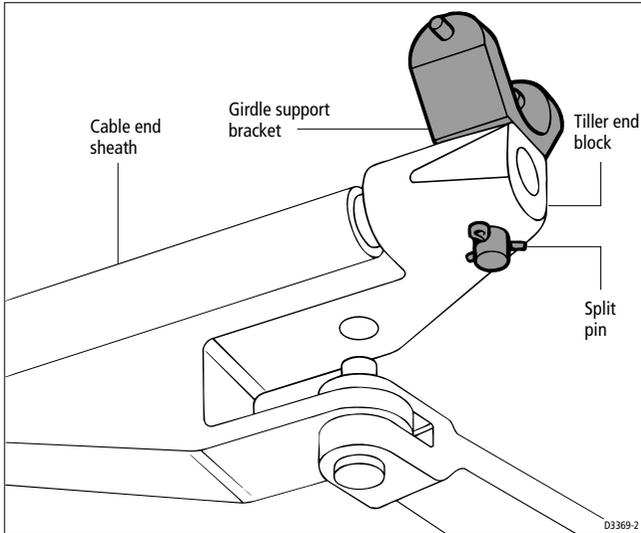

Figure 7: Fitting girdle support bracket (MerCruiser 93/OMC/Yamaha)
1. Fit the girdle support bracket as shown in *Figure 7*: